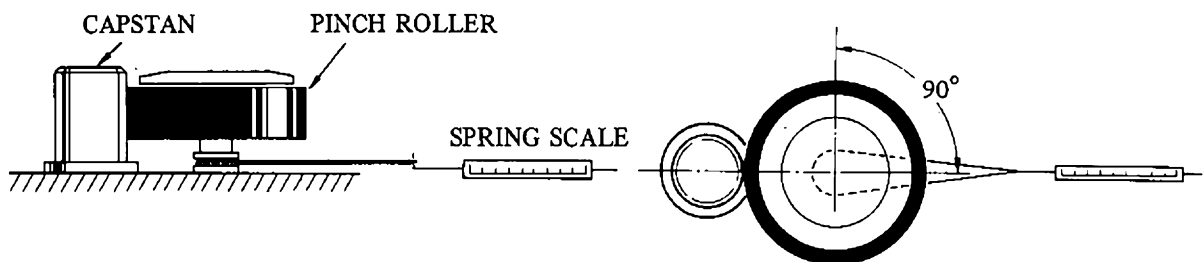

Fig. 4.3
- 1) First, loosen two screws A and B to secure that the SOLENOID, C ② is at free position.
- 3) Attach a suitable spring scale to the pinch roller shaft with a loop of twine. (shown in Fig. 4.3)
- 4) Put the G24S in the PLAY mode, and positioning the scale as illustrated in Fig. 4.3, slowly draw it in direction opposite the capstan until the pinch roller stops rotating.